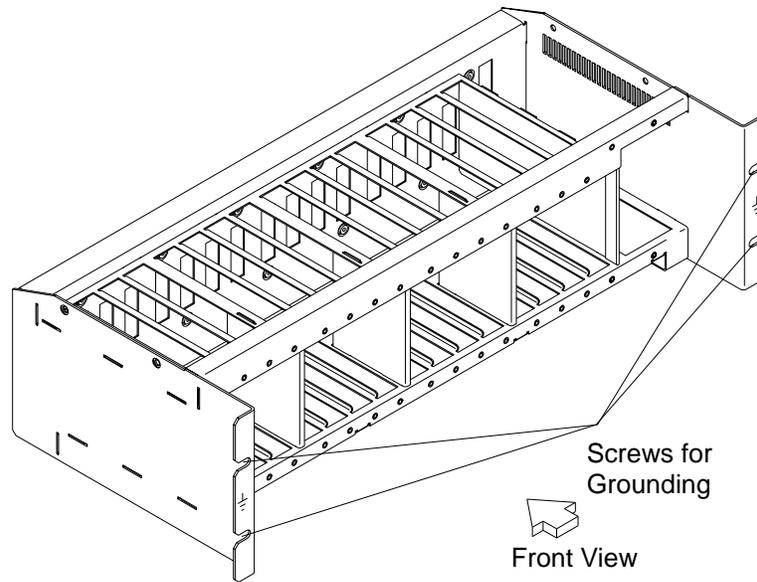

Figure 0-8. LCB Grounding Via Screws
- Check that electrical continuity is assured between the LCB housing and the controller expansion frame, if LCBs are present. This operation must be performed before any network connection (see Figure 0-8 on page xxvi).